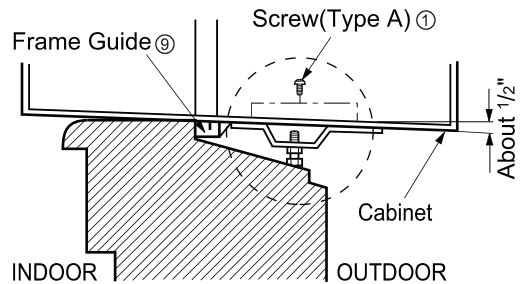

**Fig. 3**
3. Remove the White Styrofoam shipping block from the compressor. (Fig.3)
3. Loosely assemble the Sill Support® using the parts. (Fig. 3)